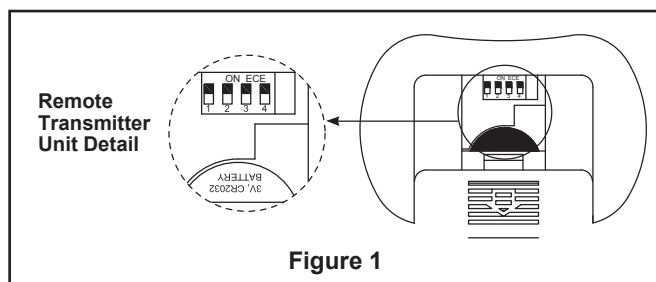

Figure 1
- **Transmitter:** remove battery cover. Press firmly below arrow and slide battery cover off. Slide code switches to your choice of up or down position. Factory setting is all up. Do not use this position. With a small screwdriver or ball point pen slide firmly up or down (Figure 1). Replace battery cover on the transmitter.
It is recommended that each fan and the motor have $\frac{3}{4}$ " plywood backing secured to a structural member for adequate support (Figure 1). A 120 VAC electrical feed, centered under the motor unit and wired to a 3 speed control (supplied) is required. The motor unit will not operate more than 4 pulley/blade assemblies.